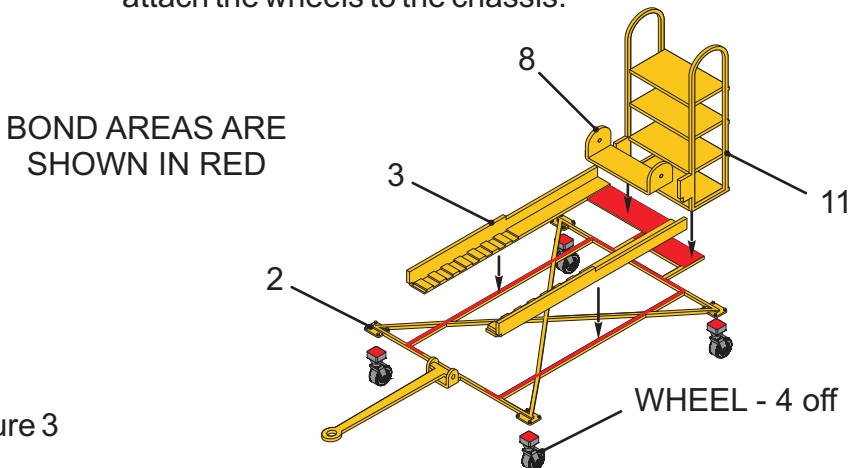

Figure 3
- 3 Chassis Assembly (see Figure 3, below)
- A Attach the guide angles (3) to the chassis (2).
- B Attach the scissors pivot (8) to the guide angles (3).
- C Attach the top tread of the lower ladder (11) to the tab on the chassis (2).